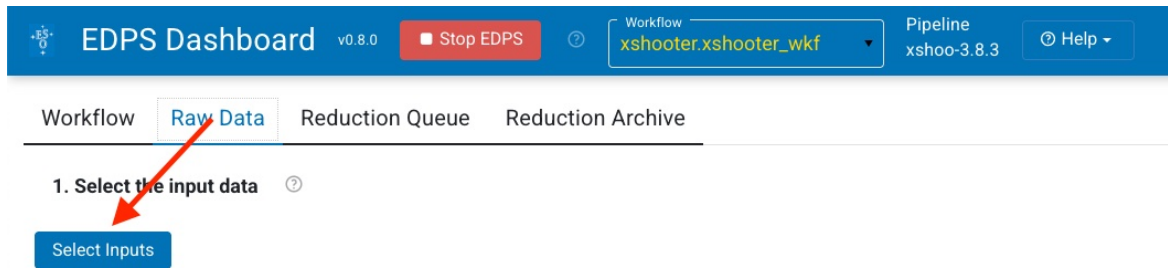

Figure 6: How to select input data.
2. Press ‘Select Inputs’. A selection window will appear that allows to select data that are stored on a local disk (Figure 6).